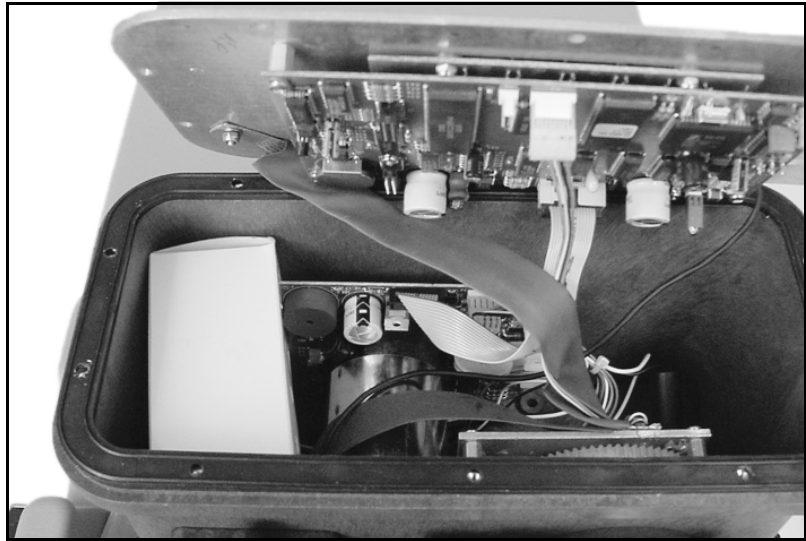

Figure 5-4 Internal Desiccant
4. Lift the front panel slowly so that the connecting wires are not pulled excessively (Figure 5-4).